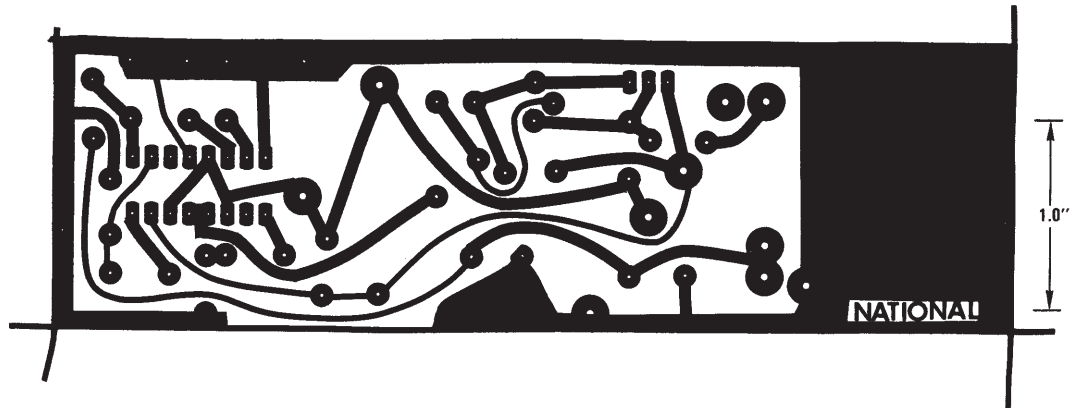

FIGURE 16. 5V, 1 Amp Switching Regulator, Foil Side
*Figure 16* and *17* show a PC board layout and stuffing diagram for the 5V, 1A regulator of *Figure 15*. The regulator's performance is listed in *Table 1*.